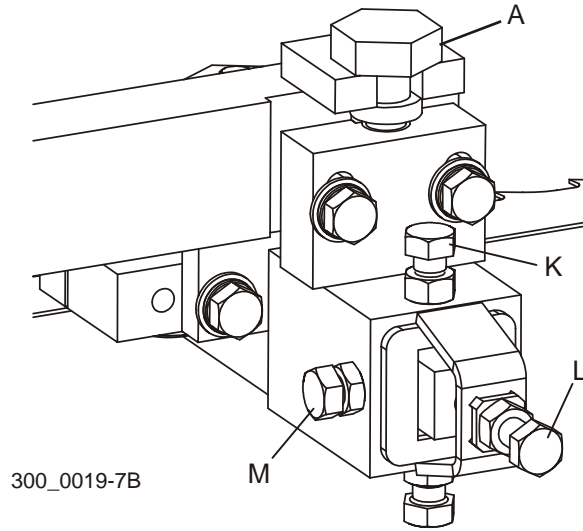

FIG. 7-42
See Figure 7-42. To adjust, loosen one bolt (K) and bolt (M). Slide the blade guide assembly in or out as necessary. Loosen the jam nut on bolt (L) and adjust the bolt until it